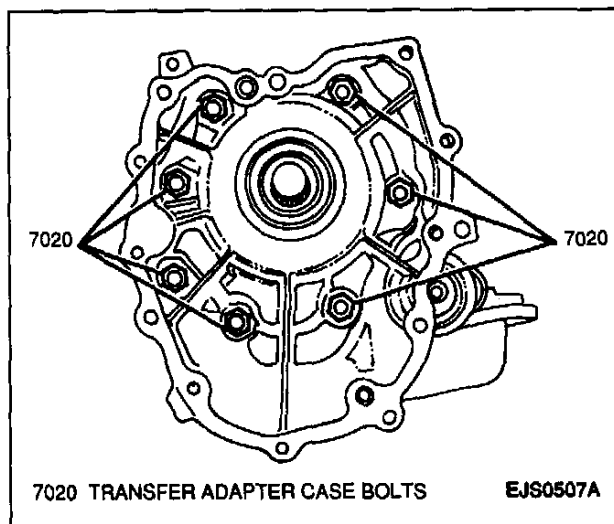

Figure 59—Transfer Adapter Case Bolts
9. Seven bolts, transfer adapter case and gasket from transmission case (Figure 59).
5. New transfer adapter case gasket and transfer adapter case to transmission case; secure with seven bolts (Figure 59).